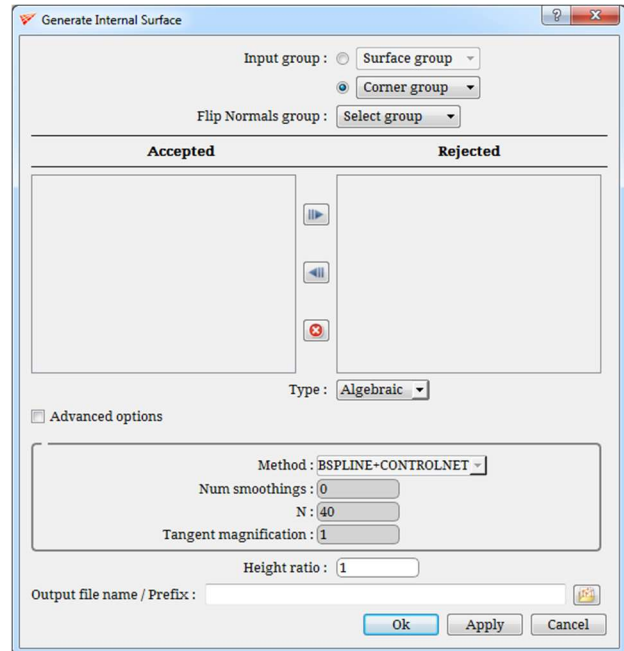

Figure 4.209: Internal surface dialog box
*The internal surface* is another tool which creates a quad surface at the intersection of surfaces. Figure 4.209 shows the dialog box of the Internal surface. You can choose to create it based on the surface or corner groups. By default, corner group option is selected.